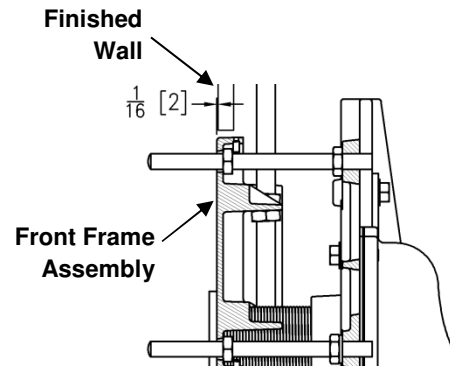

Figure 4
- 4 Place the Support Frame Assembly (P1201-XB, P.N. 830080019) on the threaded rods. Make sure that the frame sets on all four jam nuts. Adjust Jam Nuts so that the front of the frame is 1/16" out from the finished wall. See carrier cross section shown in **Figure 4**.